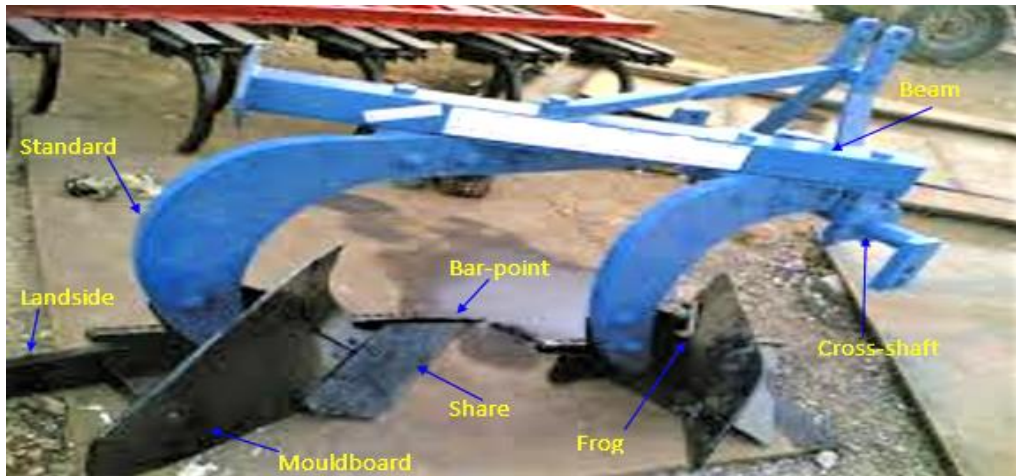

Fig. 3.1: Tractor drawn 2-Bottom MB Plough
1. Fixed Bottom (or One Way) Mouldboard Plough: Fixed bottom ploughs throw the soil in one direction, usually to the right (Fig.3.1). Its main components are mouldboard, share, land side, frog, shank and plough accessories, and hitch system. The share and share points are made from high carbon steel or low alloy steel. Both are hardened and tempered to suitable hardness.